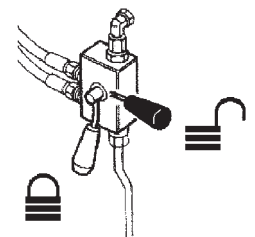

fig. 8
- make sure that the tap **R1** of the valve of the outrigger ram **S1** is closed (for the closed or opened position see fig. 8);